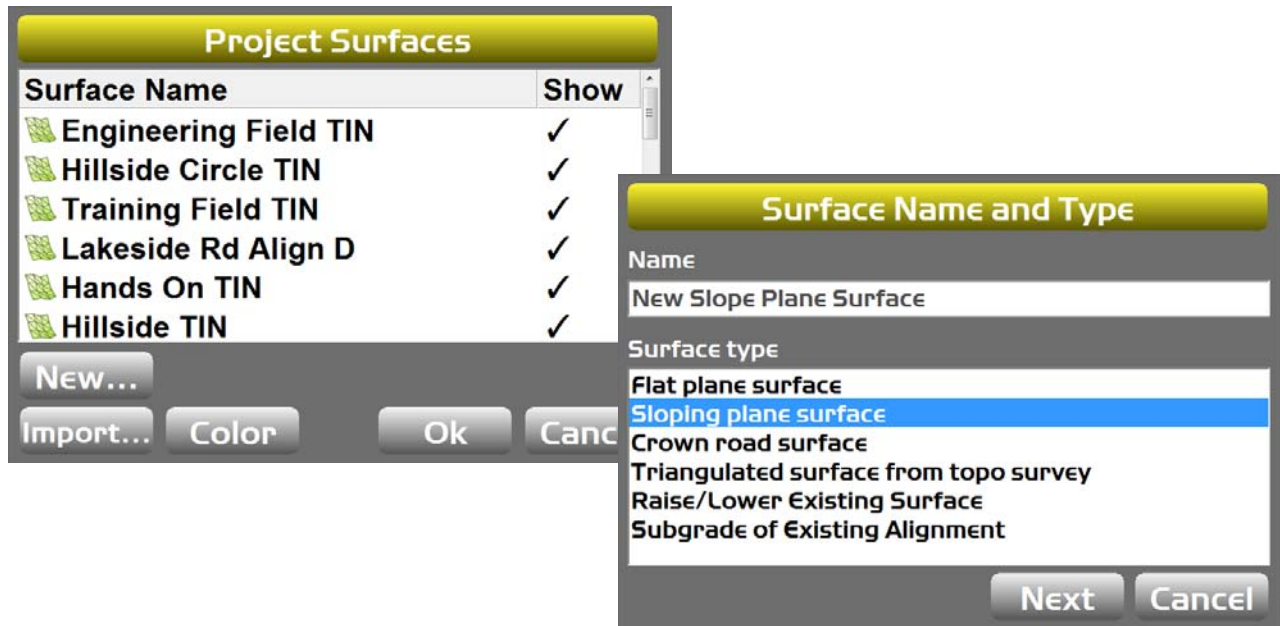

Figure 34: Project Surfaces Screen – New Slope Plane Surface
1. Press the Power button on the display, then tap **File ▶ Surfaces**. The **Project Surfaces** screen appears (Figure 34).
2. Tap **New** to create a new flat or sloping surface file. The **Surface Name and Type** screen appears (Figure 34).
4. Select **Sloping plane surface** and tap **Next** (Figure 34).